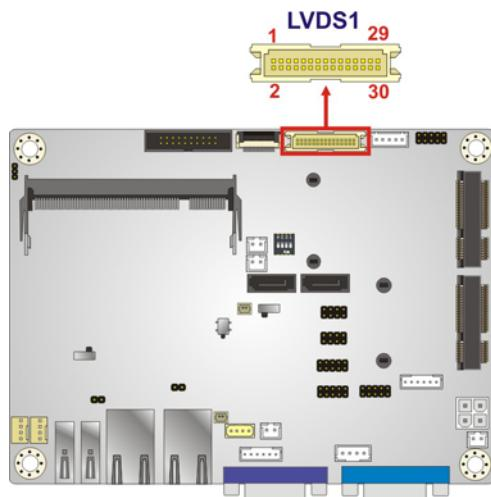

Figure 3-14: LVDS Connector Location
**CN Location:** See Figure 3-14